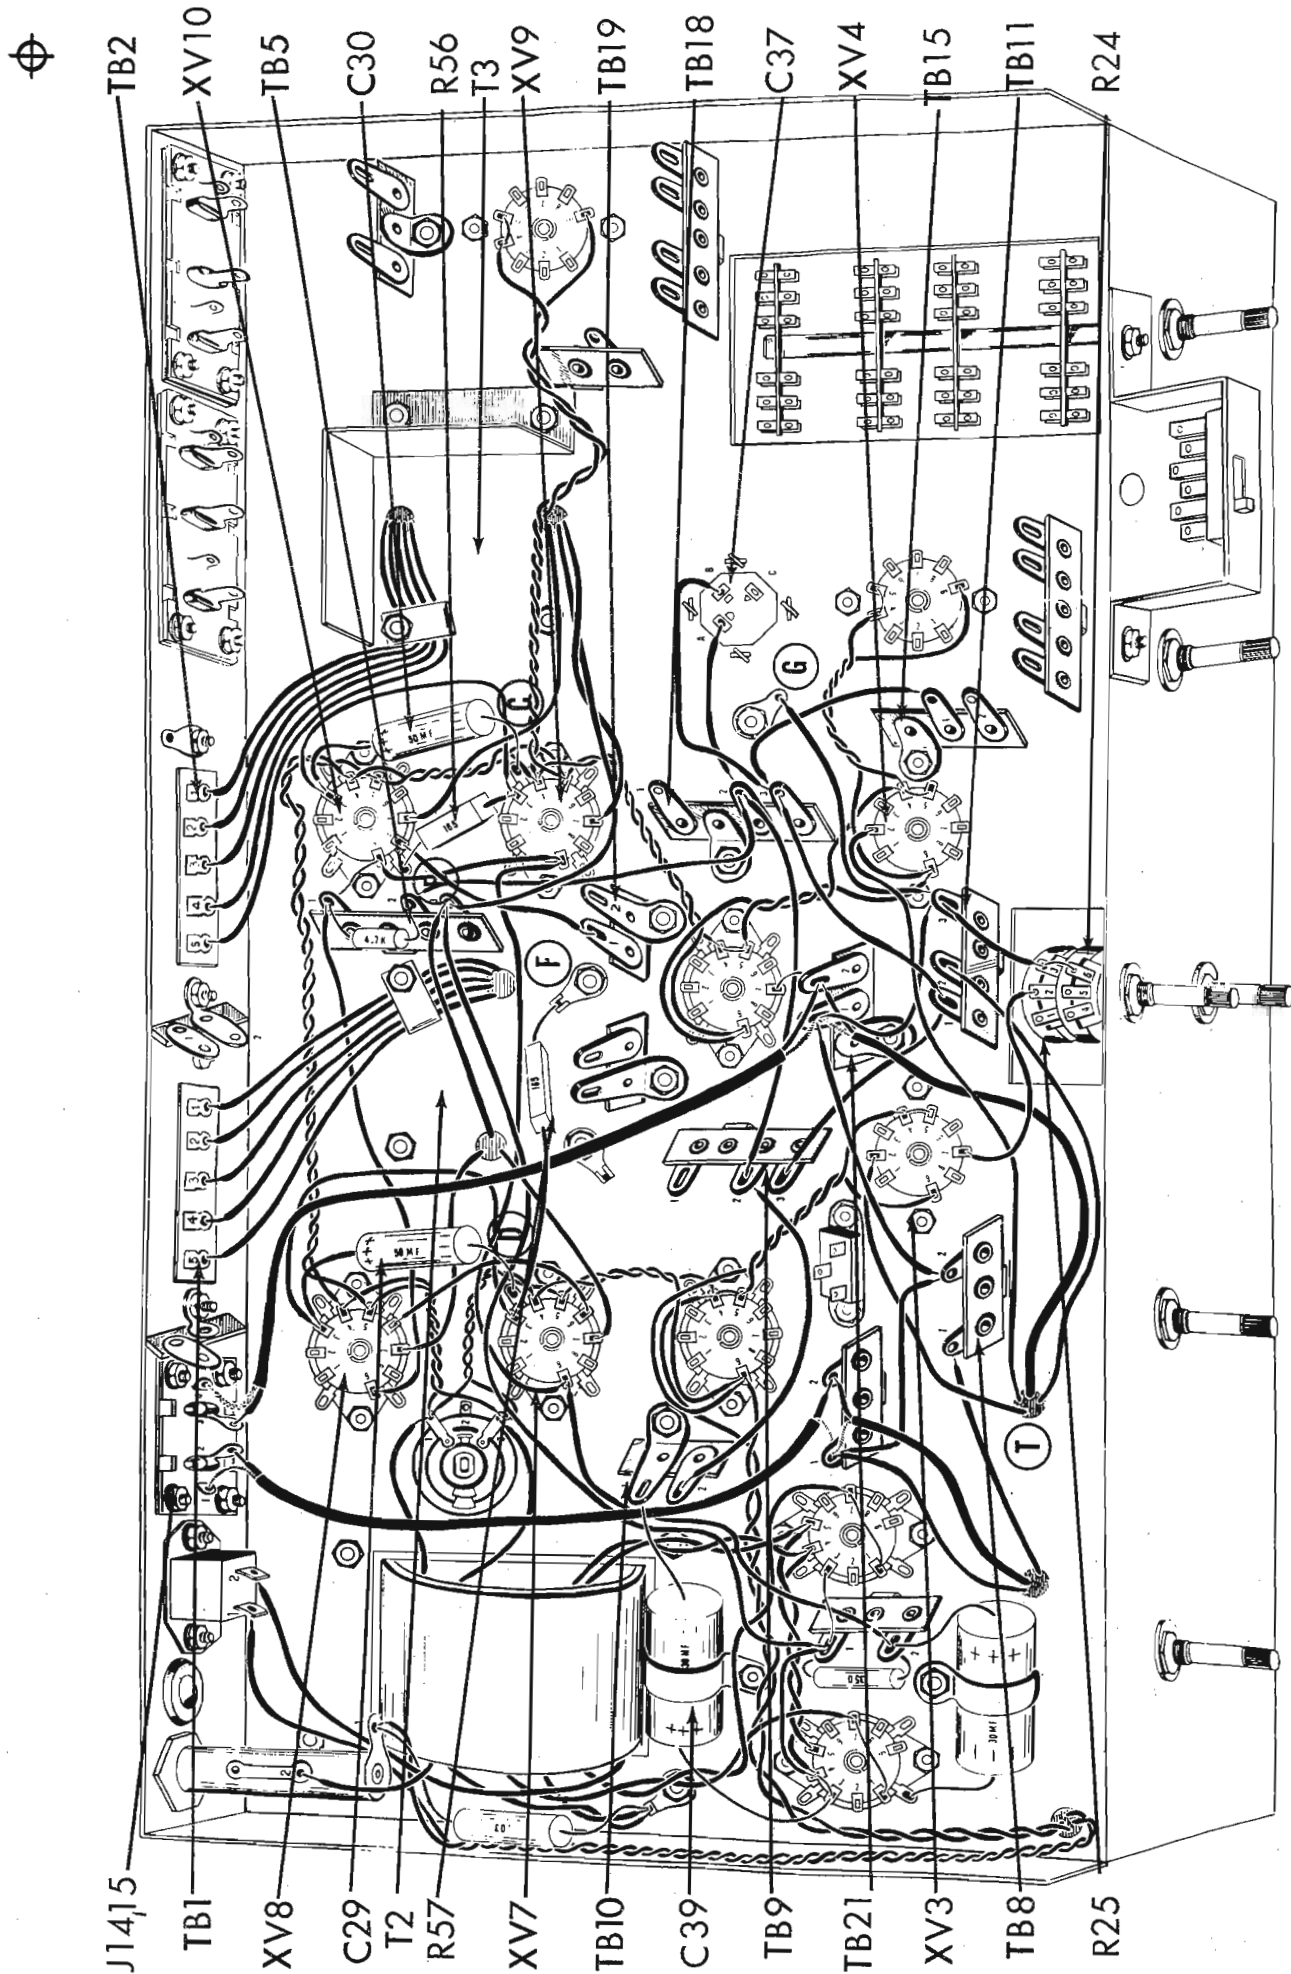

Fig. 8
1. (✓) Fig. 8. Cut the negative (-) lead on the 30 mfd electrolytic capacitor, C39, to 1 1/4". Connect to TB10-1 (C).
2. (✓) Fig. 8. From the output transformer, T2, connect the yellow lead to TB1-4 (C), the green lead to TB1-3 (S1), the brown lead to TB1-2 (S1), the black lead to TB1-1 (C), the red lead to TB5-3 (C), the blue lead to XV7-7 (S1), the brown-yellow lead to XV8-7 (S1), and the orange lead to TB1-5 (S1).
3. (✓) Fig. 8. Connect a 3 1/2" piece of green wire from XV7-6 (C) to XV8-6 (C).
4. (✓) Fig. 8. Connect a 3 1/2" piece of green wire from XV10-8 (C) to TB19-1 (C).
5. (✓) Fig. 8. Cut all leads on two 50 mfd, 25V, electrolytic capacitors, C29, and C30, to 1". Cover the positive (+) leads on both capacitors with a 3/4" piece of spaghetti. Connect the positive lead of one capacitor to XV10-3 (S2) and the negative (-) lead to ground lug "C" (S1) at XV9. Connect the positive (+) lead of the second capacitor to XV8-3 (S2) and the negative (-) lead to ground lug "D" (S1) at XV7.
6. (✓) Fig. 8. Cut both leads on a 165Ω, 5 watt resistor, R56, to 3/4". Cover one lead with a 1/2" piece of spaghetti and connect XV9-3 (S2). Connect the other lead to ground lug "E" (S1) at XV10. Dress resistor away from surrounding wires.
7. (✓) Fig. 8. From the output transformer, T3, connect the yellow lead to TB2-4 (C), the green lead to TB2-3 (S1), the brown lead to TB2-2 (S1), the black lead to TB2-1 (C), the red lead to TB5-3 (S3), the blue lead to XV9-7 (S1), the brown-yellow lead to XV10-7 (S1) and the orange lead to TB2-5 (S1).
8. (✓) Fig. 8. Connect the brown lead from hole "T" to TB11-2 (C).
9. (✓) Fig. 8. Connect a 2 1/2" piece of red wire from TB9-3 (C) to TB11-1 (C).
10. (✓) Fig. 8. Connect the outer shield from the single conductor cable (from hole "T") to TB21-1 (C) and the inner conductor to TB21-2 (C).
11. (✓) Fig. 8. Connect a 3 1/2" piece of orange wire from TB9-2 (C) to TB18-2 (C).
12. (✓) Fig. 8. Strip back the outer insulation 3/4" from one end of an 8"
13. (✓) Fig. 8. Cut one lead on the 165Ω, 5 watt resistor, R57, to 1 1/2" and cover with a 1 1/4" piece of spaghetti. Connect this lead to XV7-3 (S2). Cut the other lead to 1/2" and connect to ground lug "F" (S1). Dress away from the surrounding wires.
14. (✓) Fig. 8. Connect a 3 1/2" piece of black wire from TB8-2 (C) to TB21-1 (C).
15. (✓) Fig. 8. Connect a 3" piece of black wire from TB21-1 (C) to TB11-3 (C).
16. (✓) Fig. 8. Connect a 3 1/2" piece of black wire from TB11-3 (C) to ground lug "G" (C).
17. (✓) Fig. 8. Connect the grey lead from hole "T" to XV4-2 (S1).
18. (✓) Fig. 8. Connect a 4" piece of orange wire from TB10-2 (C) to TB9-2 (C).
19. (✓) Fig. 8. Connect a 3 1/2" piece of red wire from TB11-1 (C) to TB18-3 (C).
20. (✓) Fig. 8. Connect a 4 1/2" piece of red wire from TB18-3 (C) to C37-B (C).
21. () Fig. 8. Connect a 3" piece of red wire from TB18-3 (C) to TB15-1 (C).
22. (✓) Fig. 8. Connect a 3 1/2" piece of orange wire from TB18-2 (C) to C37-A (C).
23. (✓) Fig. 8. Connect a 1" piece of bare wire to the dual concentric pots in the rectangular hole at the middle-front of the chassis. Connect from R24-6 (S1) to R25-3 (C).
24. (✓) Fig. 8. Connect a 2" piece of black wire from R25-3 (S2) to TB11-3 (C).
25. (✓) Fig. 8. Connect a 1 3/4" piece of green wire from R25-2 (S1) to XV3-7 (S1).